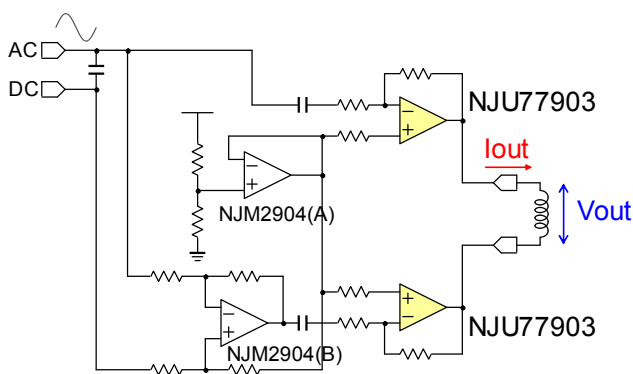
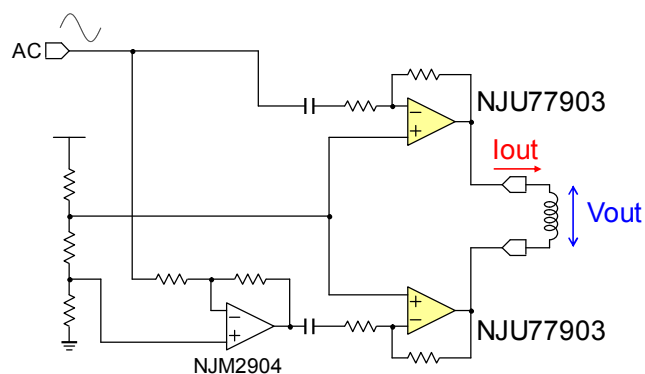
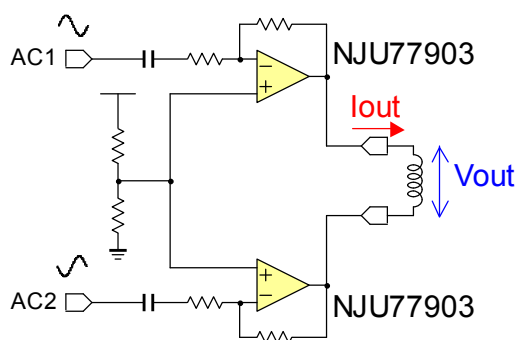

Fig4.1 Resolver Excitation Circuit
Fig4.2 Resolver Excitation Circuit
Fig4.3 Resolver Excitation Circuit
Fig4.1 shows the Typical Resolver Excitation Circuit using the NJU77903 and the NJM2904. The NJM2904 (A) makes midpoint voltage and the NJM2904 (B) makes signal phase inversion. Fig4.2 is the circuit without NJM2904 (A), its dominant voltage is given by resistance voltage divider. Fig4.3 is the circuit omitted NJM2904 (A) and NJM2904 (B), it is available under the condition using the input signals which have phase difference one another.